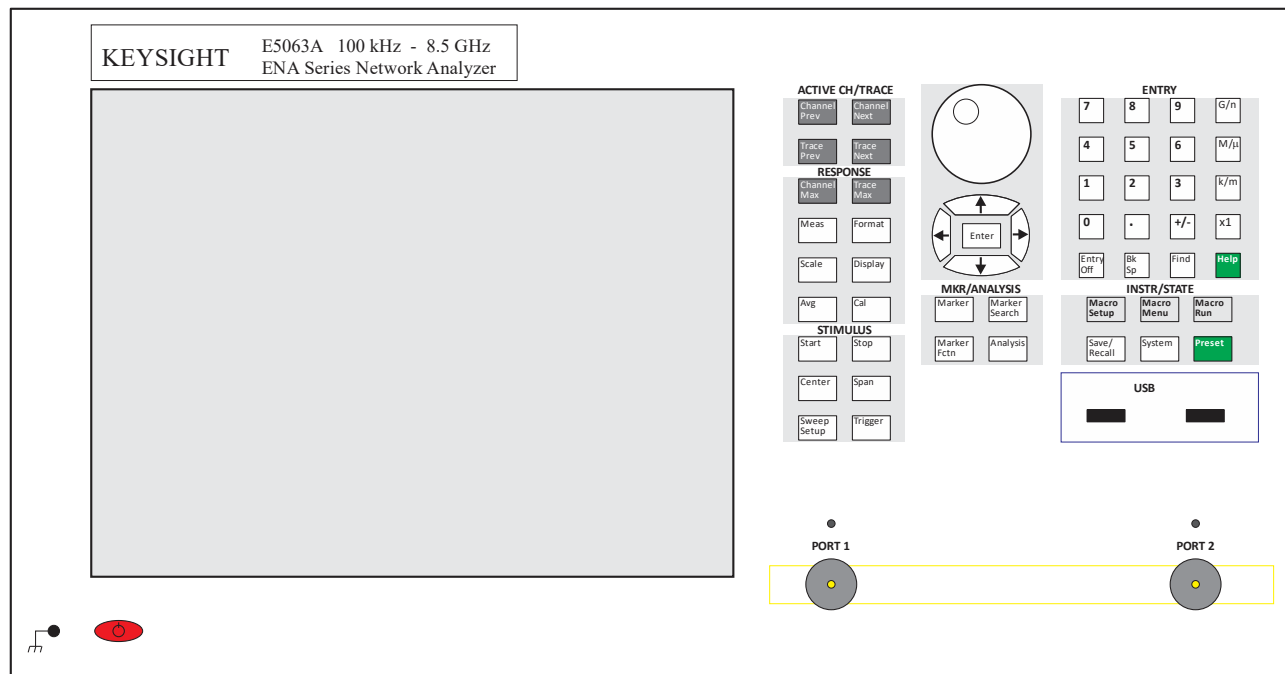

Figure 1 Keysight E5063A Network Analyzer front panel (top) and close-up (bottom)
In this lab, you will be introduced to vector network analyzers (VNA) by conducting a 1-port calibration procedure and taking some sample measurements. The purpose of the calibration is to provide accurate measurements, and to move the measurement reference plane(s) to the end of the coaxial transmission line (TL) adaptor(s) and/or coaxial TL(s) attached to the port(s) of the VNA. After calibration, the measured data will be for the device under test (DUT) only, i.e., it does not include the transmission line effects of the adaptor(s) and/or TL(s) between the VNA and DUT. We will use a Keysight E5063A Network Analyzer as our VNA (see Figure 1). It has two ports with female type N connectors and a possible frequency range of 100 kHz to 8.5 GHz.
- Figure 1 shows the front layout of the Keysight E5063A Network Analyzer.